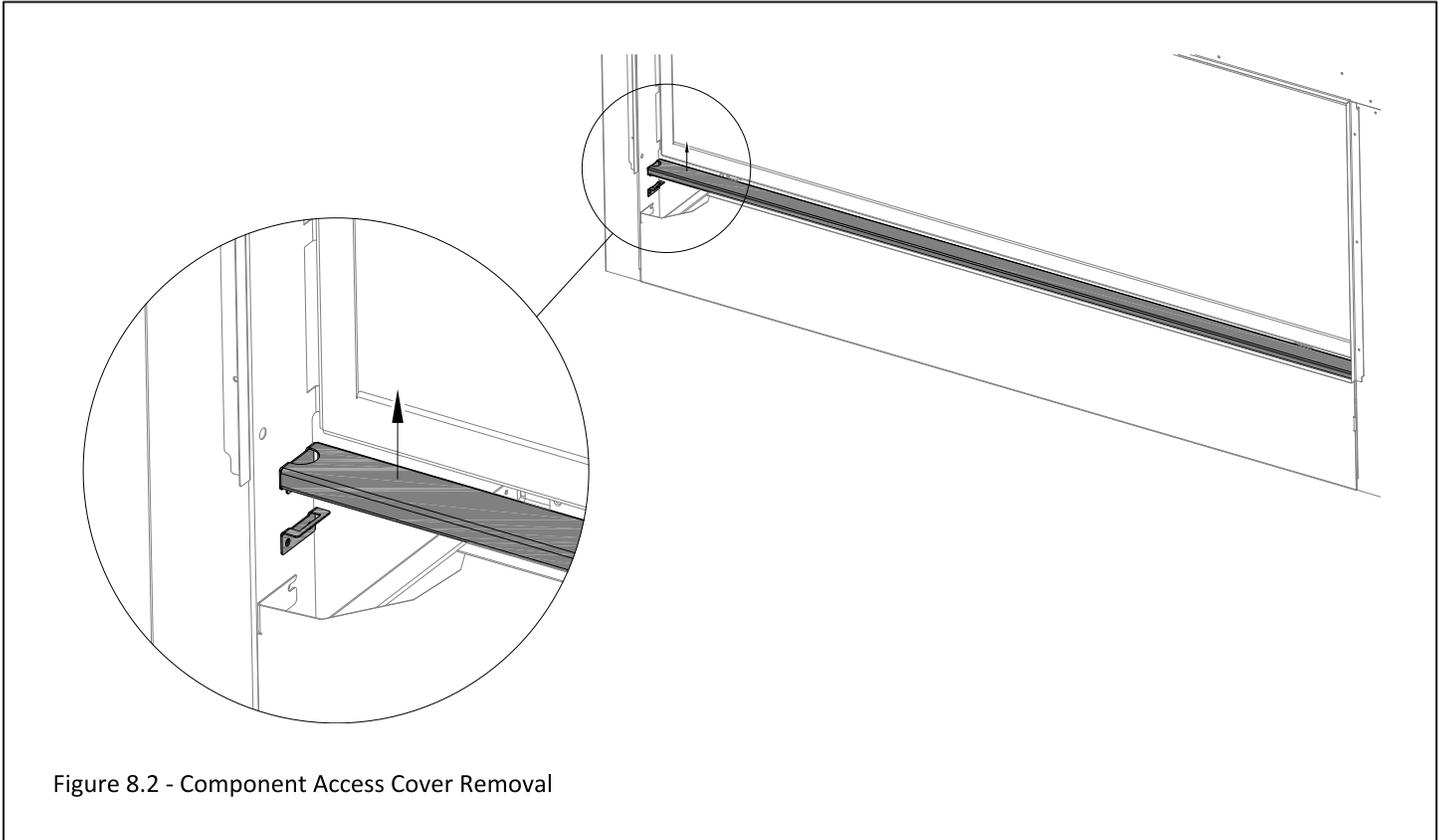

Figure 8.2 - Component Access Cover Removal
2. Lift up and remove the component access cover to gain access below the fireplace. See Figure 8.2.